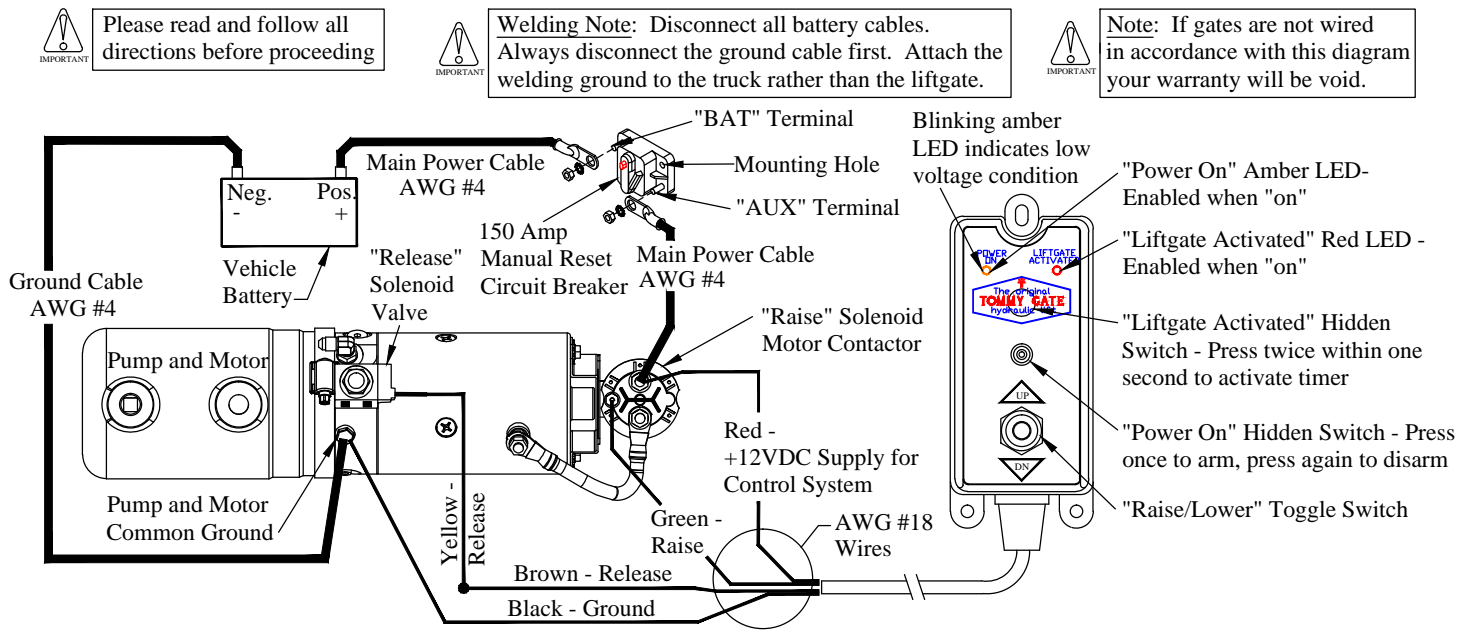

Figure 20: Wiring diagram.
3. **Push** the hidden "Power On" switch (Figure 20). The amber "Power On" LED will illuminate.
13. **Connect** the circuit breaker and battery as outlined in the *Tommy Gate Recommended Electrical Wiring Guidelines* and wiring diagram (Figure 20).